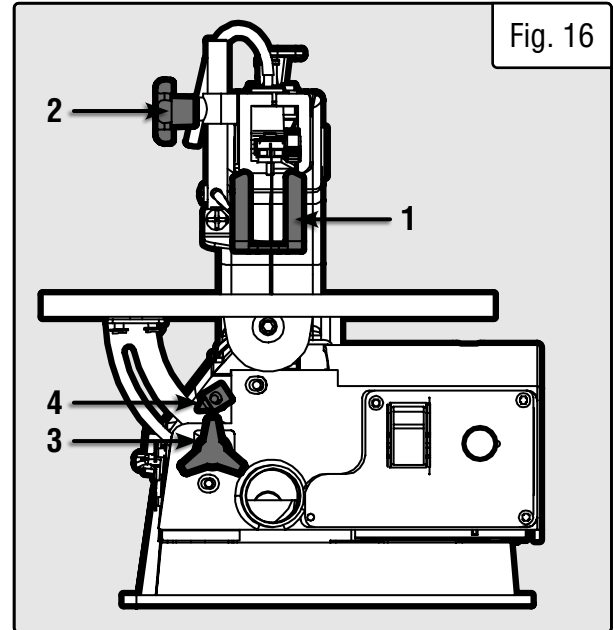

Fig. 16
2. Move the blade guard foot (Fig. 16 - 1) to the highest position by loosening the height adjustment knob (Fig. 16 - 2) and retighten.
3. Tilt the table to the desired angle by loosening the table bevel lock knob (Fig. 16 - 3). Move the table to the proper angle using the degree scale and the pointer (Fig. 16 - 4).
4. Tighten the table bevel lock knob (Fig. 16 - 3).
5. Loosen the blade guard screw (Fig. 16 - 2), and tilt the blade guard (Fig. 16 - 1) to the same angle as the table. Retighten the blade guard screw.
1. Raise the blade guard foot (Fig. 16 - 1) by loosening the height adjustment knob (Fig. 16 - 2).